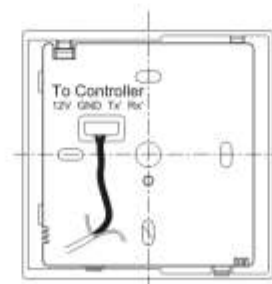

Figure 17
c. Connect the communication shield wire on the according terminals, as shown in Figure 17.